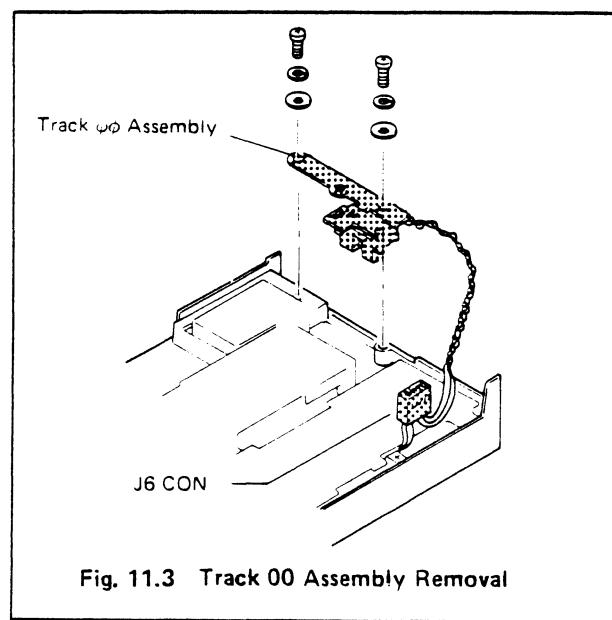

Fig. 11.3 Track 00 Assembly Removal
11.3 Track 00 Assembly Removal and Installation (See Fig. 11.3)